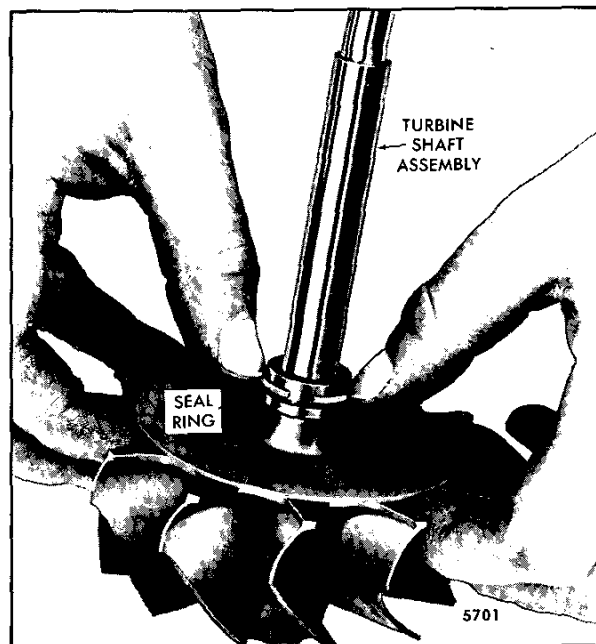

Fig. 12 - Installing Seal Ring on Turbine Shaft
2. Lubricate a new piston ring with clean engine oil and install it in the ring grooves of the wheel and shaft assembly (Fig. 12).